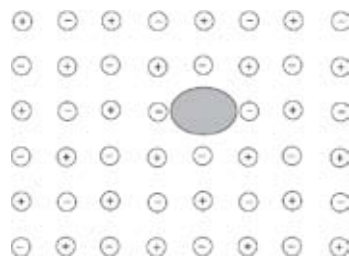

Figure 2.2: Effects of a vacancy at a positive-ion site
- The presence of a vacancy at a positive-ion site may be presented as shown in Fig. 2.2.
- Study the diagram in Fig. 2.2 and provide answers to the questions posed below.